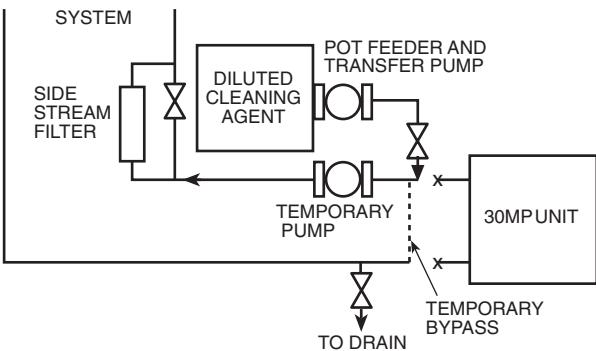

Fig. 15 — Cleaning Using a Side Stream Filter
- c. A side stream filter is recommended (see Fig. 15) during the cleaning process. Filter side flow rate should be enough to filter the entire water volume every 3 to 4 hours. Change filters as often as necessary during the cleaning process.